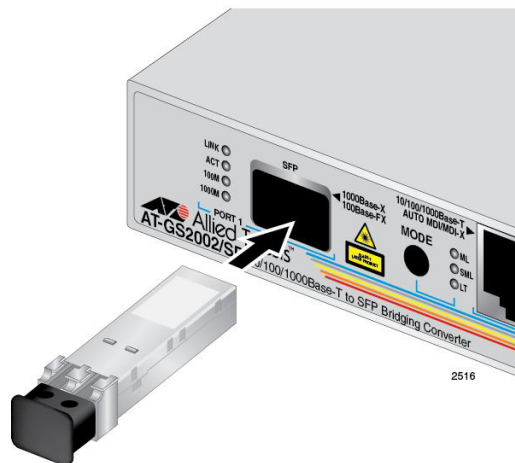

Figure 6. Inserting the SFP
3. With the handle on the transceiver oriented towards the top of the media converter, slide the transceiver into the SFP slot until it clicks into place. See Figure 6